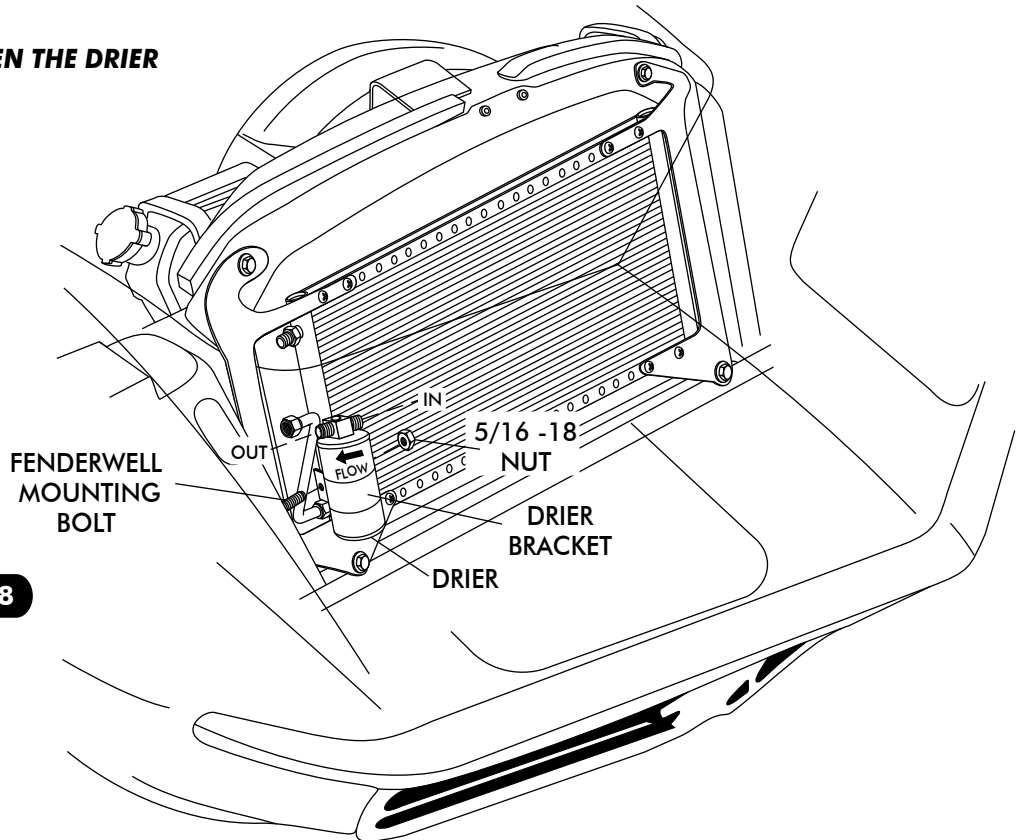

FIGURE 8
- ❑ REMOVE THE FRONT FENDERWELL MOUNTING BOLT THAT GOES THROUGH THE CORE SUPPORT AS SHOWN IN FIGURE 8 BELOW. REPLACE THE BOLT USING A 5/16-18 x 1 1/4" HEX BOLT WITH WASHER.
- ❑ INSTALL DRIER WITH MOUNTING BRACKET ON FENDERWELL BOLT, SECURE USING 5/16-18 NUT. SEE FIGURE 8 BELOW.